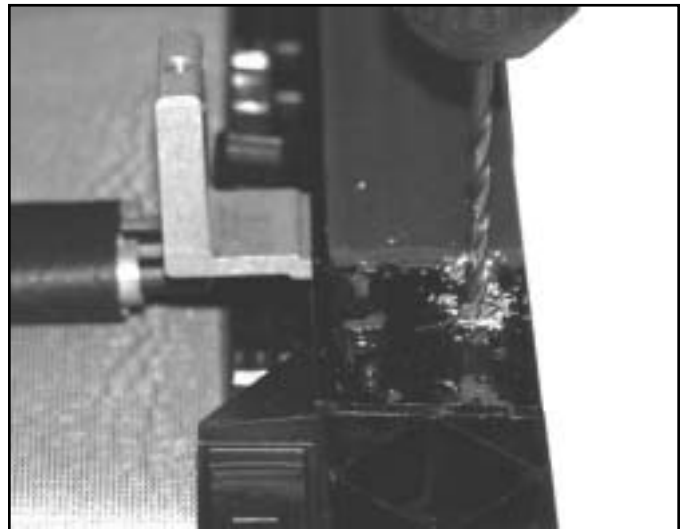

Figure S-11
5. Drill out the three (3) retaining rivets using caution not to drill into the track. See figure S-11.